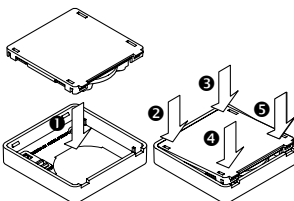

Fig. 7/Abb. 7
4. Replace the back cover by pressing it to the sensor unit at the four angles until you hear a clicking sound as shown in Fig. 7.